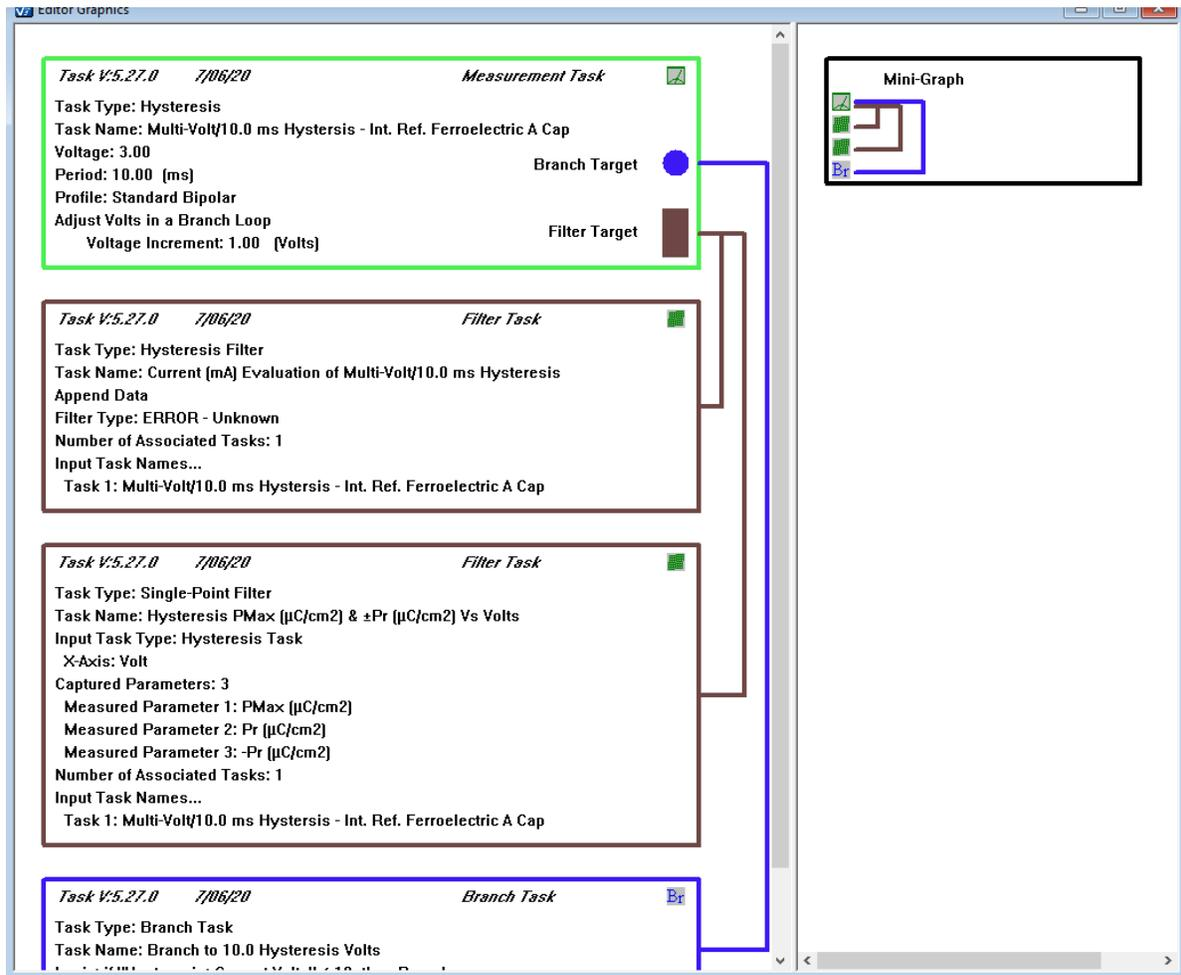

Figure 2 - A Simple Test Definition Graph.
Step 3: The Graph appears in a new Test Definition Graph Window as in **Figure 2**. Note that **Figure 2** shows *standard* text output.